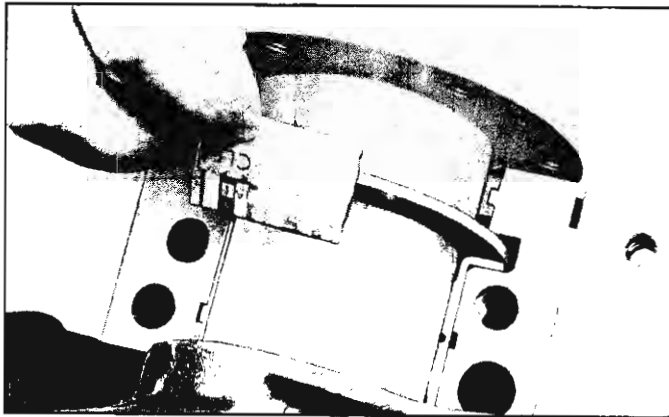

Fig. 103—Measuring Plastigage
5. Without removing the Plastigage, check its compressed width (at the widest point) with the graduations on the Plastigage envelope (fig. 103).